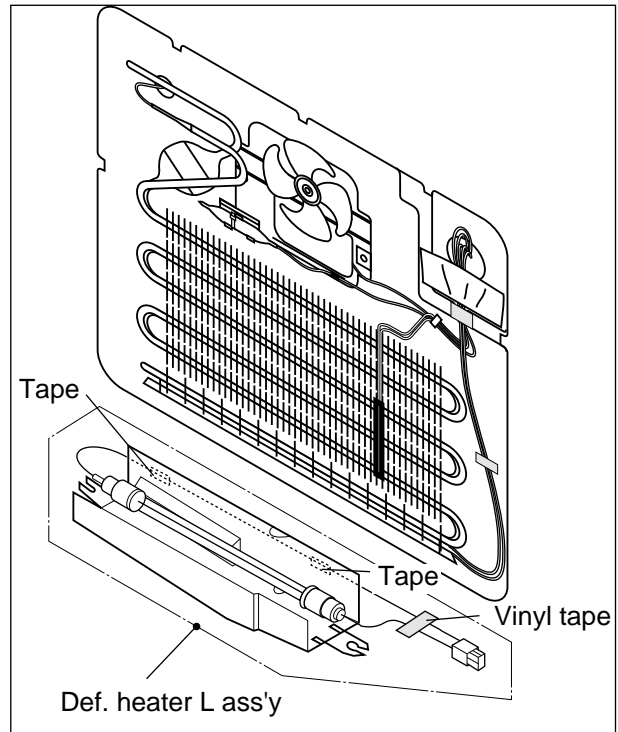

Fig. A-24
1. Disconnect the lead wires inserted in the rib of center partition (Figure A-24: 8 pcs.).